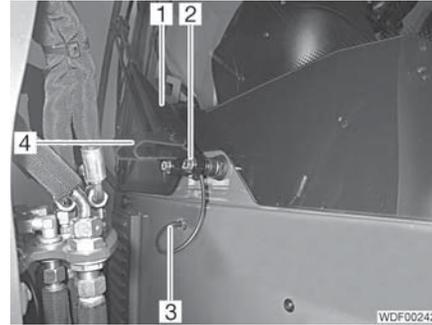

Fig. 372 Front windshield wiper arms
- Pull off the hose (Fig. 372,3) of the windshield washer system.
- Fold the 2 caps (Fig. 372,4) away from the fastening.
- Undo the 2 nuts (Fig. 372,2).
- Press both windshield wiper arms (Fig. 372,1) against the nuts with a lever.
- Screw the 2 nuts (Fig. 372,2) onto the bolts and tighten.
- Fold the 2 caps (Fig. 372,4) over the nuts.
- Insert the hose (Fig. 372,3) onto the connection below the windshield.